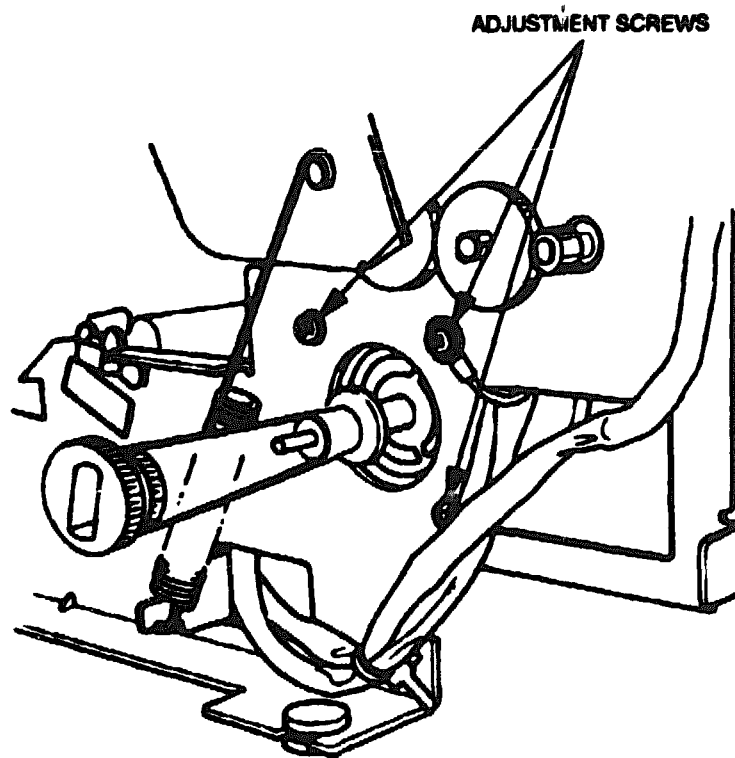

Figure 4-5 LF Motor Assembly Tension Adjustment Screws
3. Loosen the three screws that secure the LF motor assembly (see Figure 4-5).